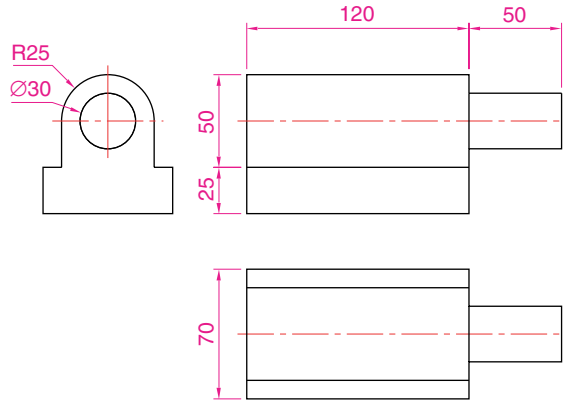

Fig. 7.25 Exercises 2 and 3
2. Fig. 7.25 is a first angle orthographic projection of the other part of the fitment. Construct a three-view third angle orthographic projection of the part.
- Construct an isometric drawing of the part shown in Fig. 7.25.